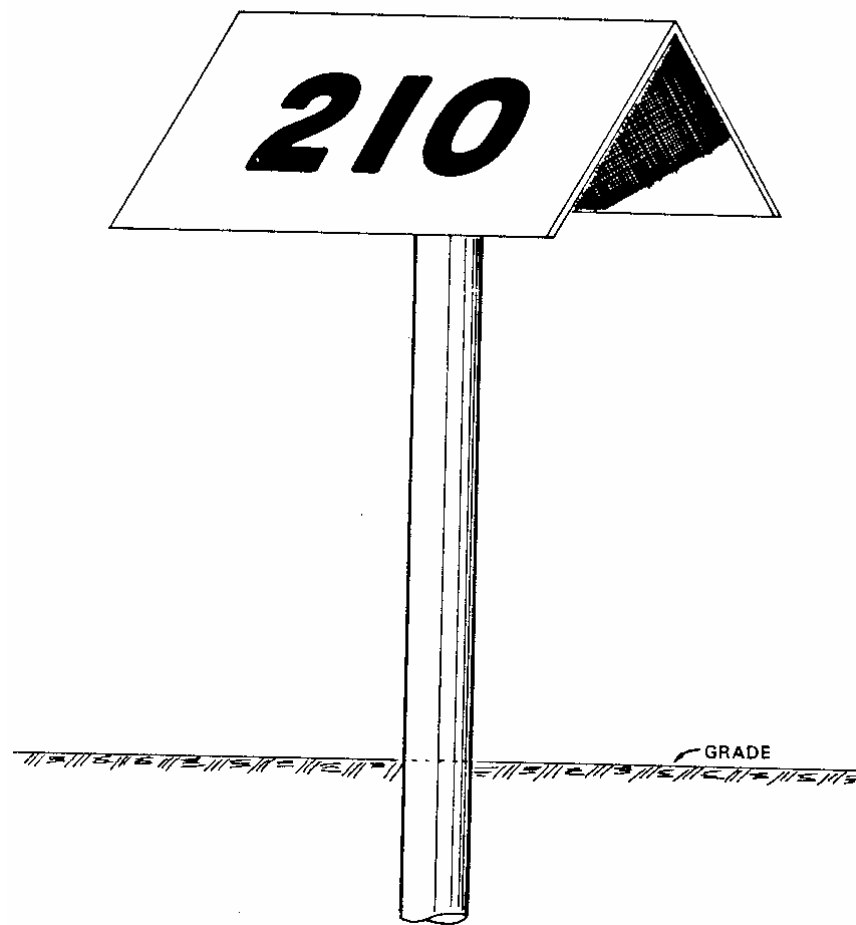

Figure 25-2 Typical Pipeline Aerial Marker
- Pipeline Aerial Markers (See Figure 25-2) will be permanently installed at appropriate intervals along the length of the gas pipeline to indicate the distance, in miles, beginning from Milepost 0, the beginning of the transmission pipeline, at Prudhoe Bay.